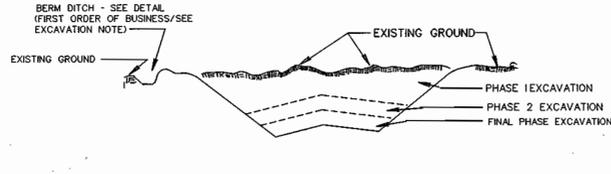

Figure 4 Incremental Stabilization - Cut
- Construction Sequence: Refer to Figure 4 (below).